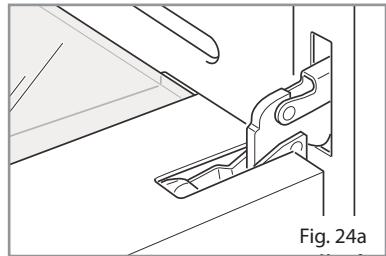

Fig. 24a
- Open the door to the full extent (Fig. 24a).
- Unlock the oven door by opening it completely and closing the lever "A" on the left and right hinges (fig. 24a).